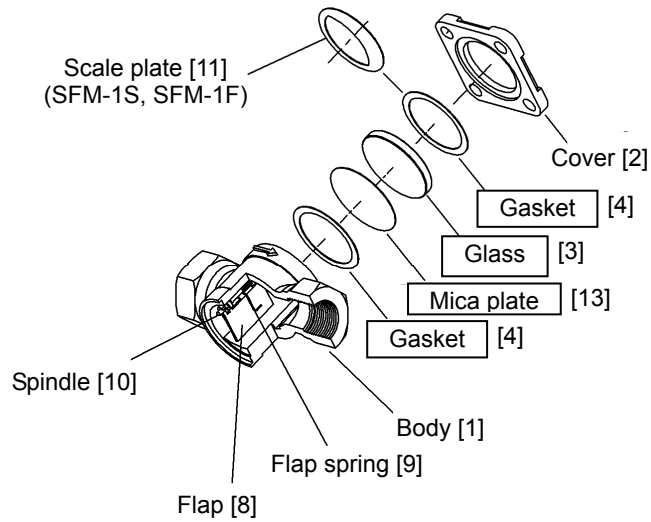

Figure 5
- 1. Attach the gaskets [4], mica plates [13], glasses [3], gaskets [4] (or scale plates [11] for SFM-1S and SFM-1F) and covers [2] in this order to the body [1]. (See Figure 5, Picture 7, and Picture 8)